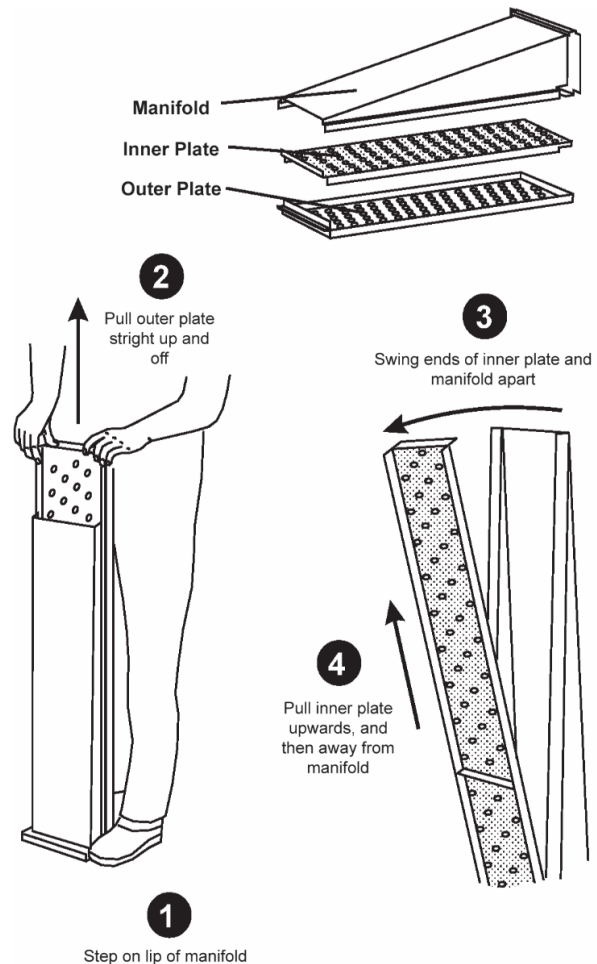

Figure 27. Disassembling the Air Fingers
7. Disassemble the air fingers as shown in Figure 27. AS EACH FINGER IS DISASSEMBLED, WRITE THE "LOCATION CODE" FOR THE FINGER ON ALL THREE OF ITS PIECES. This will help you in correctly reassembling the air fingers.